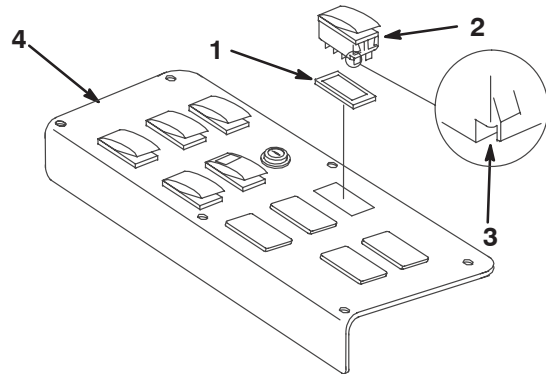
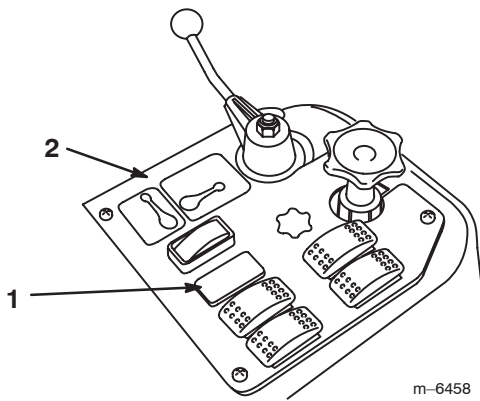

Figure 10
Figure 11
1. Remove the spray control panel to expose the bottom side (Fig. 10 for the 1250 and Fig. 11 for the 1200).
2. Remove the sonic boom plug from the spray control panel on the vehicle and install the rocker switch provided in its place (Fig. 10 for the 1250 and Fig. 11 for the 1200).
Note: Ensure that the orientation of the switch matches what is shown in Figure 10, with the notch pointing toward the rear of the vehicle.